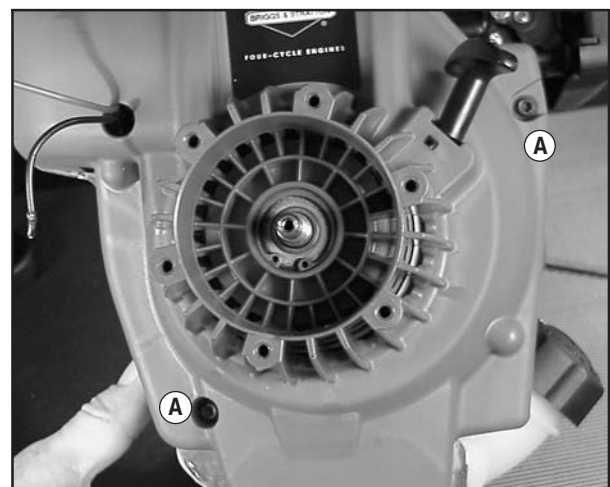

Fig. 11
- Install 2 machine screws (A) in blower housing, Fig.11.